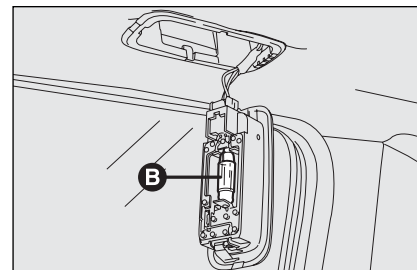

fig. 48
- ☐ replace the bulb **B**-fig. 48 releasing it from the side contacts making sure that the new bulb is correctly clamped between the contacts.